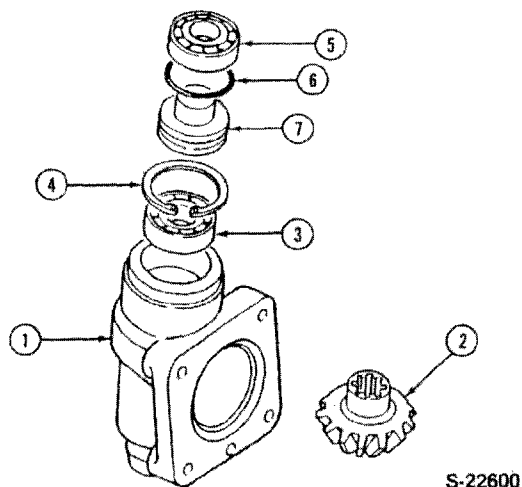
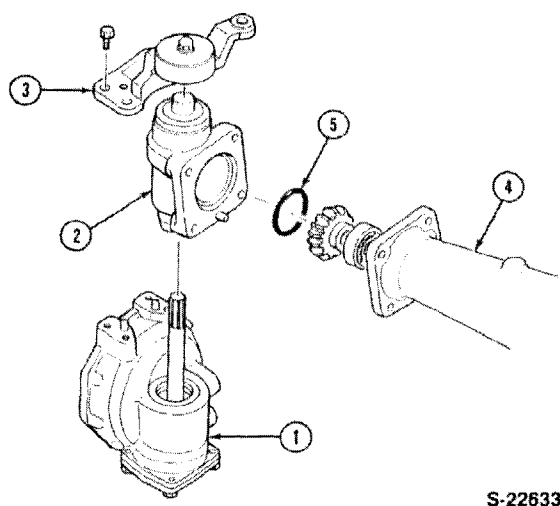

Figure 34
Figure 35
10. Install the idler gear case bearing (3), snap ring (4), king-pin (7), O-Ring (6), and bearing (5), Figure 34.
11. Position the idler gear (2) inside the idler case.
12. Position the idler case onto the bevel gear case, Figure 35.
16. Position the O-Ring in place on the axle housing and install the drop box assembly to the axle housing, Figure 35.